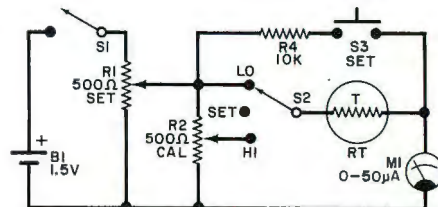

Fig. 1. Probe *RT* senses temperature.
**About the Circuit.** The schematic diagram of the thermometer is shown in Fig. 1. It consists essentially of a resistor (thermistor) connected in series with a meter movement (*M1*) across battery *B1*. As the resistance of the thermistor, *RT*, varies with changes in temperature, the current through the meter varies in step with it, changing pointer deflection. With the thermistor specified, as temperature increases, *RT*'s resistance decreases and more current goes